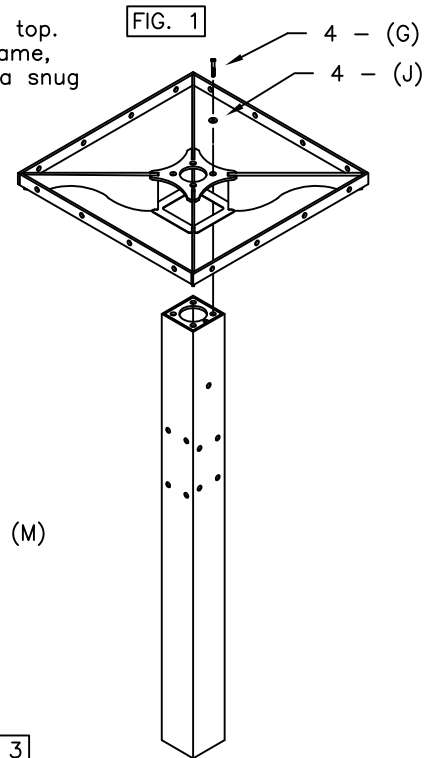

FIG. 2
Invert the top so it's upside down on a flat surface. Lower game insert (A5) into top. Attach the (D1/C) assembly to the inside of the top's center square mounting frame, see FIG. 2. Use eight (F), (K), (P) using two (J) per (F). Draw the fasteners to a snug fit with wrenches. Screw bolt covers (F1/F2), or 2 (F3) together using two (M) machine screws and slide over inground post, refer to FIG. 4. Secure to top.